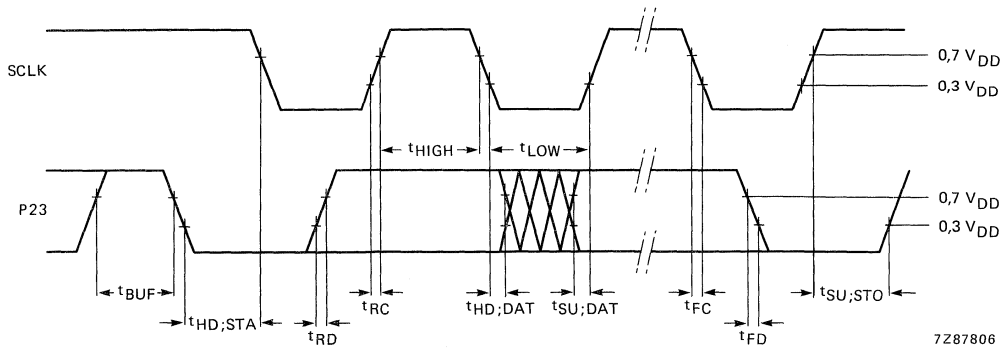

Fig. 48 PCF84C430 timing requirements for the P2.3 and SCLK *input* signals.
**Table 12** Input timing shown in Fig. 48.